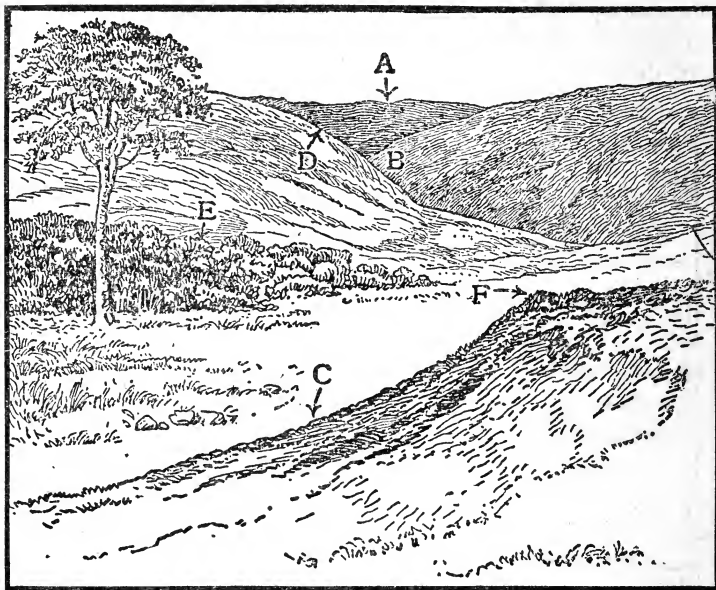

FIG. 35.—Study and Description of Ground.
- (1) **Study and Description of Ground.** (See Fig. 35.)
- (2) **Marking Down Enemy.**
- (3) **Discernment and Description of Targets.**